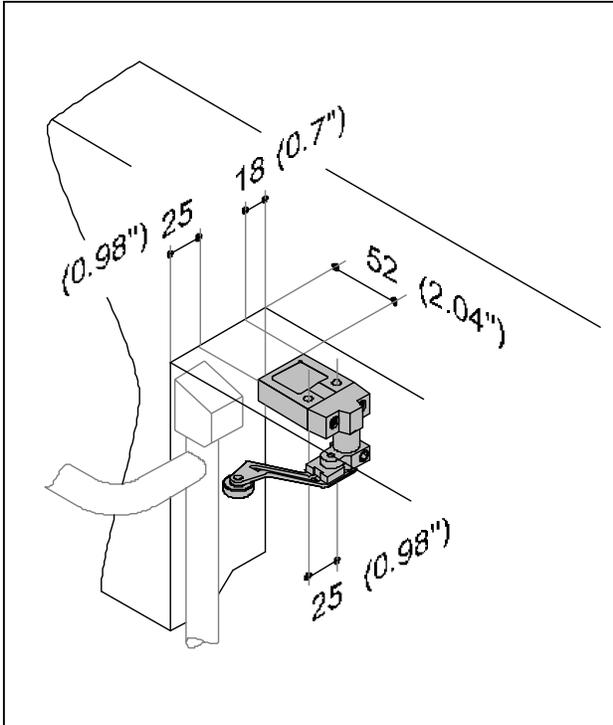

Figure 48: New switch installation dimensions (in mm and inches)
- 8) With a scribe, mark the position of the new switch mounting holes on the upper lift compartment channel. Refer to Figure 48 for the correct dimensions.